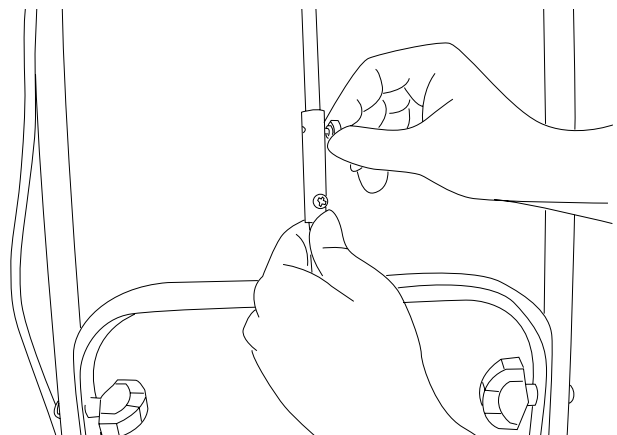

Figure 11
4. Align the screw holes and tighten the screw by hand (Fig. 11).